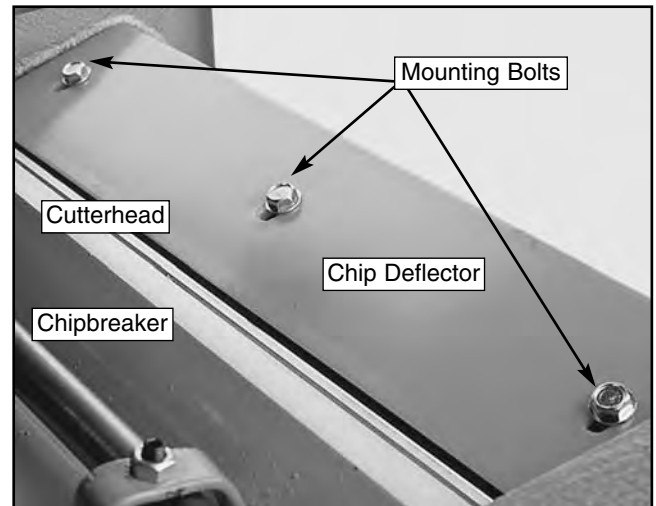

Figure 43. Chip deflector access.
2. Loosen the three deflector mounting bolts. See **Figure 43**. Make sure the beveled edge of the deflector faces the cutterhead.